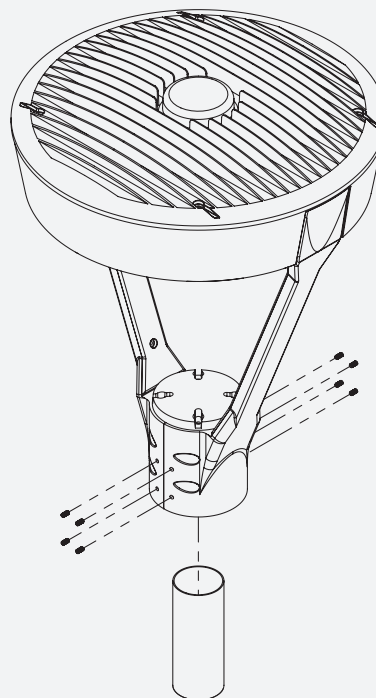

Figure 2.
- Position fixture on post top tenon or pipe as seen in Figure 2 and tighten down all 8 Allen head screws to 72 in - lbs (6ft - lbs).